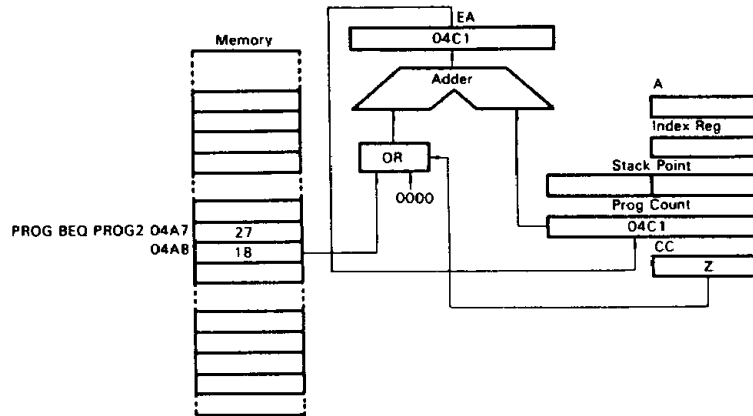

Figure 32 Example of Relative Addressing
See Fig. 32. Relative addressing is only used in branch instructions. When a branch occurs, the program counter is loaded with the contents of the byte following the opcode.  $EA = (PC) + 2 + Rel.$  where Rel. indicates the 8 bit signed data in the location following the instruction opcode. If no branch occurs, Rel.=0. When a branch takes place, the program jumps to any byte within the range +129 ~ -127 of the present instruction. These branch instructions are two bytes long.